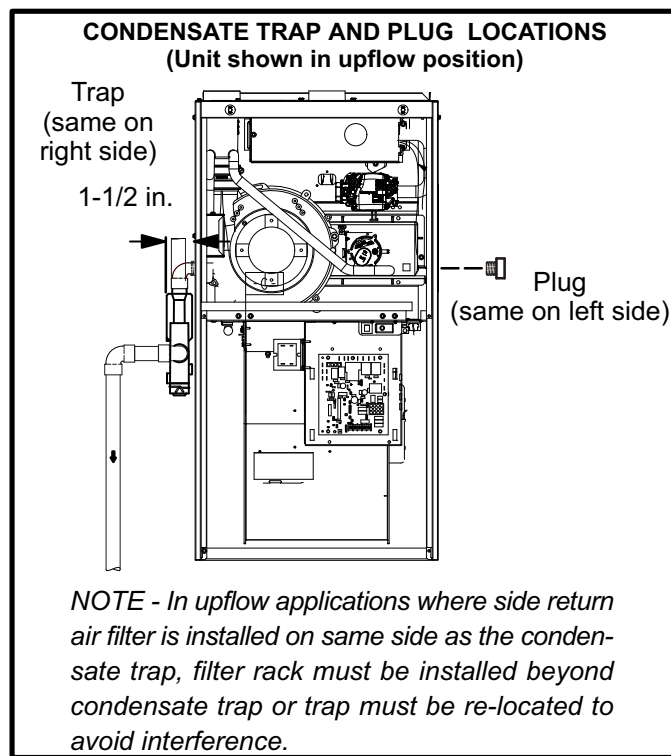

FIGURE 42
This unit is designed for either right- or left-side exit of condensate piping in upflow applications. In horizontal applications, the condensate trap must extend below the unit. An 8" service clearance is required for the condensate trap. Refer to figure 42 for condensate trap locations. Figures 50 (3/4" drain connection) and 51 (1/2" drain connection) shows trap assembly using 1/2" PVC or 3/4" PVC.
- For furnaces with a 1/2" drain connection use a 3/8 allen wrench and remove plug (figure 42) from the cold end header box at the appropriate location on the side of the unit. Install field-provided 1/2 NPT male fitting into cold end header box. For furnaces with a 3/4" drain connection use a large flat head screw driver or a 1/2" drive socket extension and remove plug. Install provided 3/4 NPT street elbow fitting into cold end header box. Use Teflon tape or appropriate pipe dope.